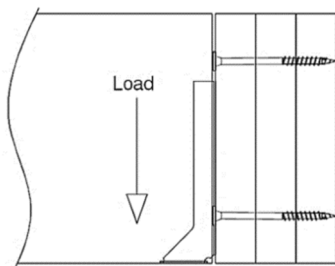

FIGURE 2a – Head Side Loading
1. In multi-ply members, the capacity of the connection depends on the location of the load in relation to the fastener. The capacity of the connection is highest when the load is acting first on the ply that is held by the head-end of the screw, as shown in Figure 2a above (Head Side Loading), and lowest when acting first on the ply that is held by the thread-end of the screw, as shown in Figure 2b above (Point Side Loading).
⁴. The loaded member is the member held by the head in Head Side Loading, and by the point in Point Side Loading. (Figures 2a and 2b)
^{6.} The loaded member is the member held by the head in Head Side Loading, and by the point in Point Side Loading. (Figures 2a and 2b)